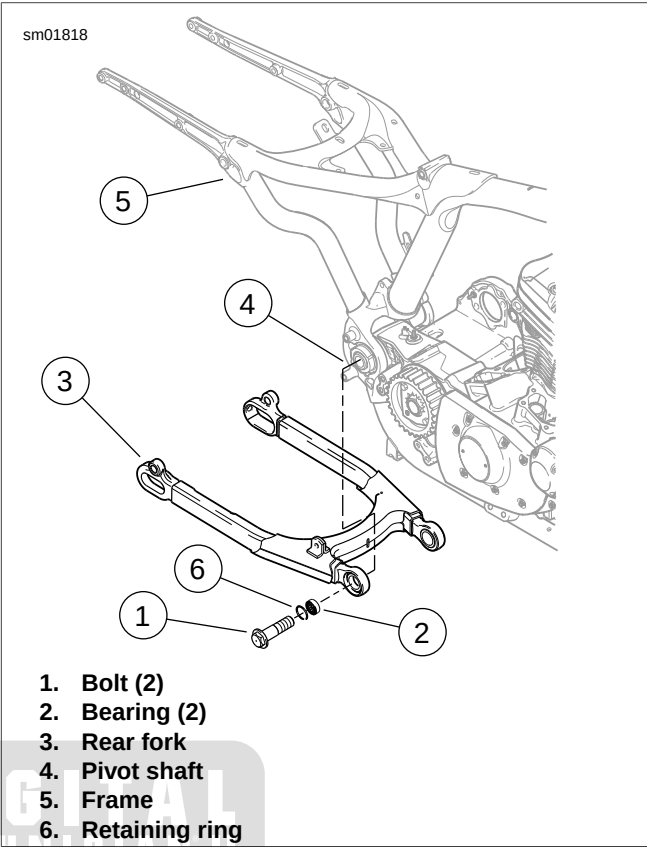

Figure 2-204. Rear Fork Assembly: All Models (XL Shown)
12. See Figure 2-204. Support rear fork (3). Remove rear fork/engine mount bolts (1) and pull fork assembly from frame.
See Figure 2-204. Remove pivot bearings (2) only if replacement is required.
2. See Figure 2-204. Make sure pivot bearing retaining ring (6) is not bent or damaged. If it is, replace it with a **new** retaining ring. Make sure retaining ring is fully seated in the groove in each bearing (2).
3. Check that rear fork (3) is not bent, twisted or cracked. Replace if damaged.
1. See Figure 2-204. If necessary, press **new** bearings (2) into position in rear fork, using BEARING REMOVER/INSTALLER TOOL (Part No. HD-46281):
2. See Figure 2-204. Holding rear fork assembly in position, install rear fork/engine mount bolts (1). Tighten to 60-70 ft-lbs (81.4-95.0 Nm).